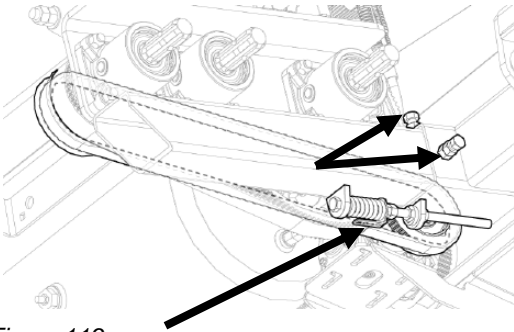

Figure 119
5. Install the belt from the GT case to the gearbox. Tighten the adjusting bolt pushing the GT case out. Tighten the bolt until the spring gauge is even with the edge of the spring. Pull up on the end of the case and tighten the jam nuts. Figure 119